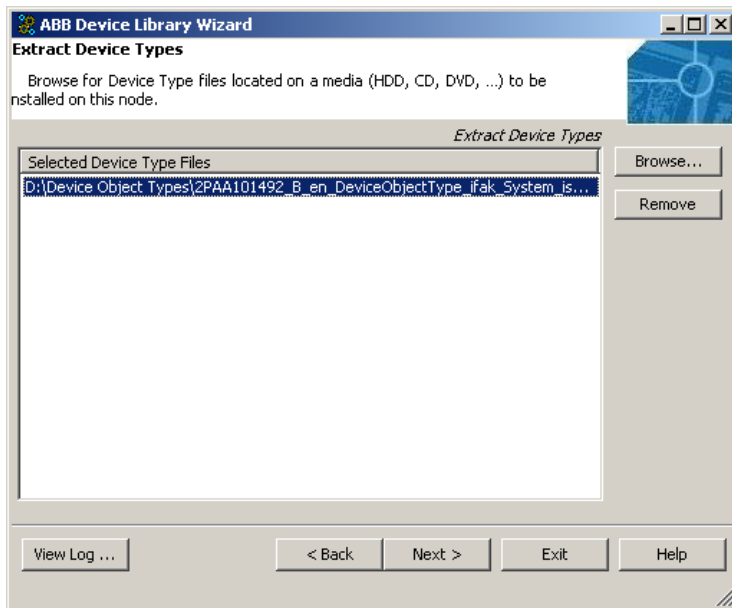

Figure 63. Select Device Object Type from the List
3. Select the Device Object Types from the list, as shown in Figure 63, and click on **Next** button.